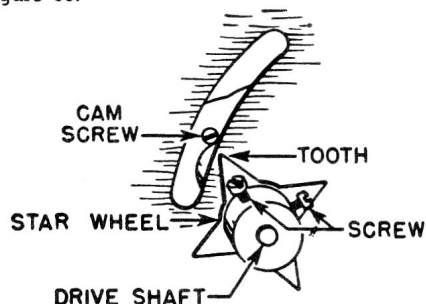

Figure 34—Star Wheel Timing.
2. Loosen the two set screws (61) sufficiently to permit the star wheel to rotate without disturbing the shaft (7).
3. Rotate the star wheel points directly to a cam screw or nose screw (visible through slot) as shown in Figure 34.